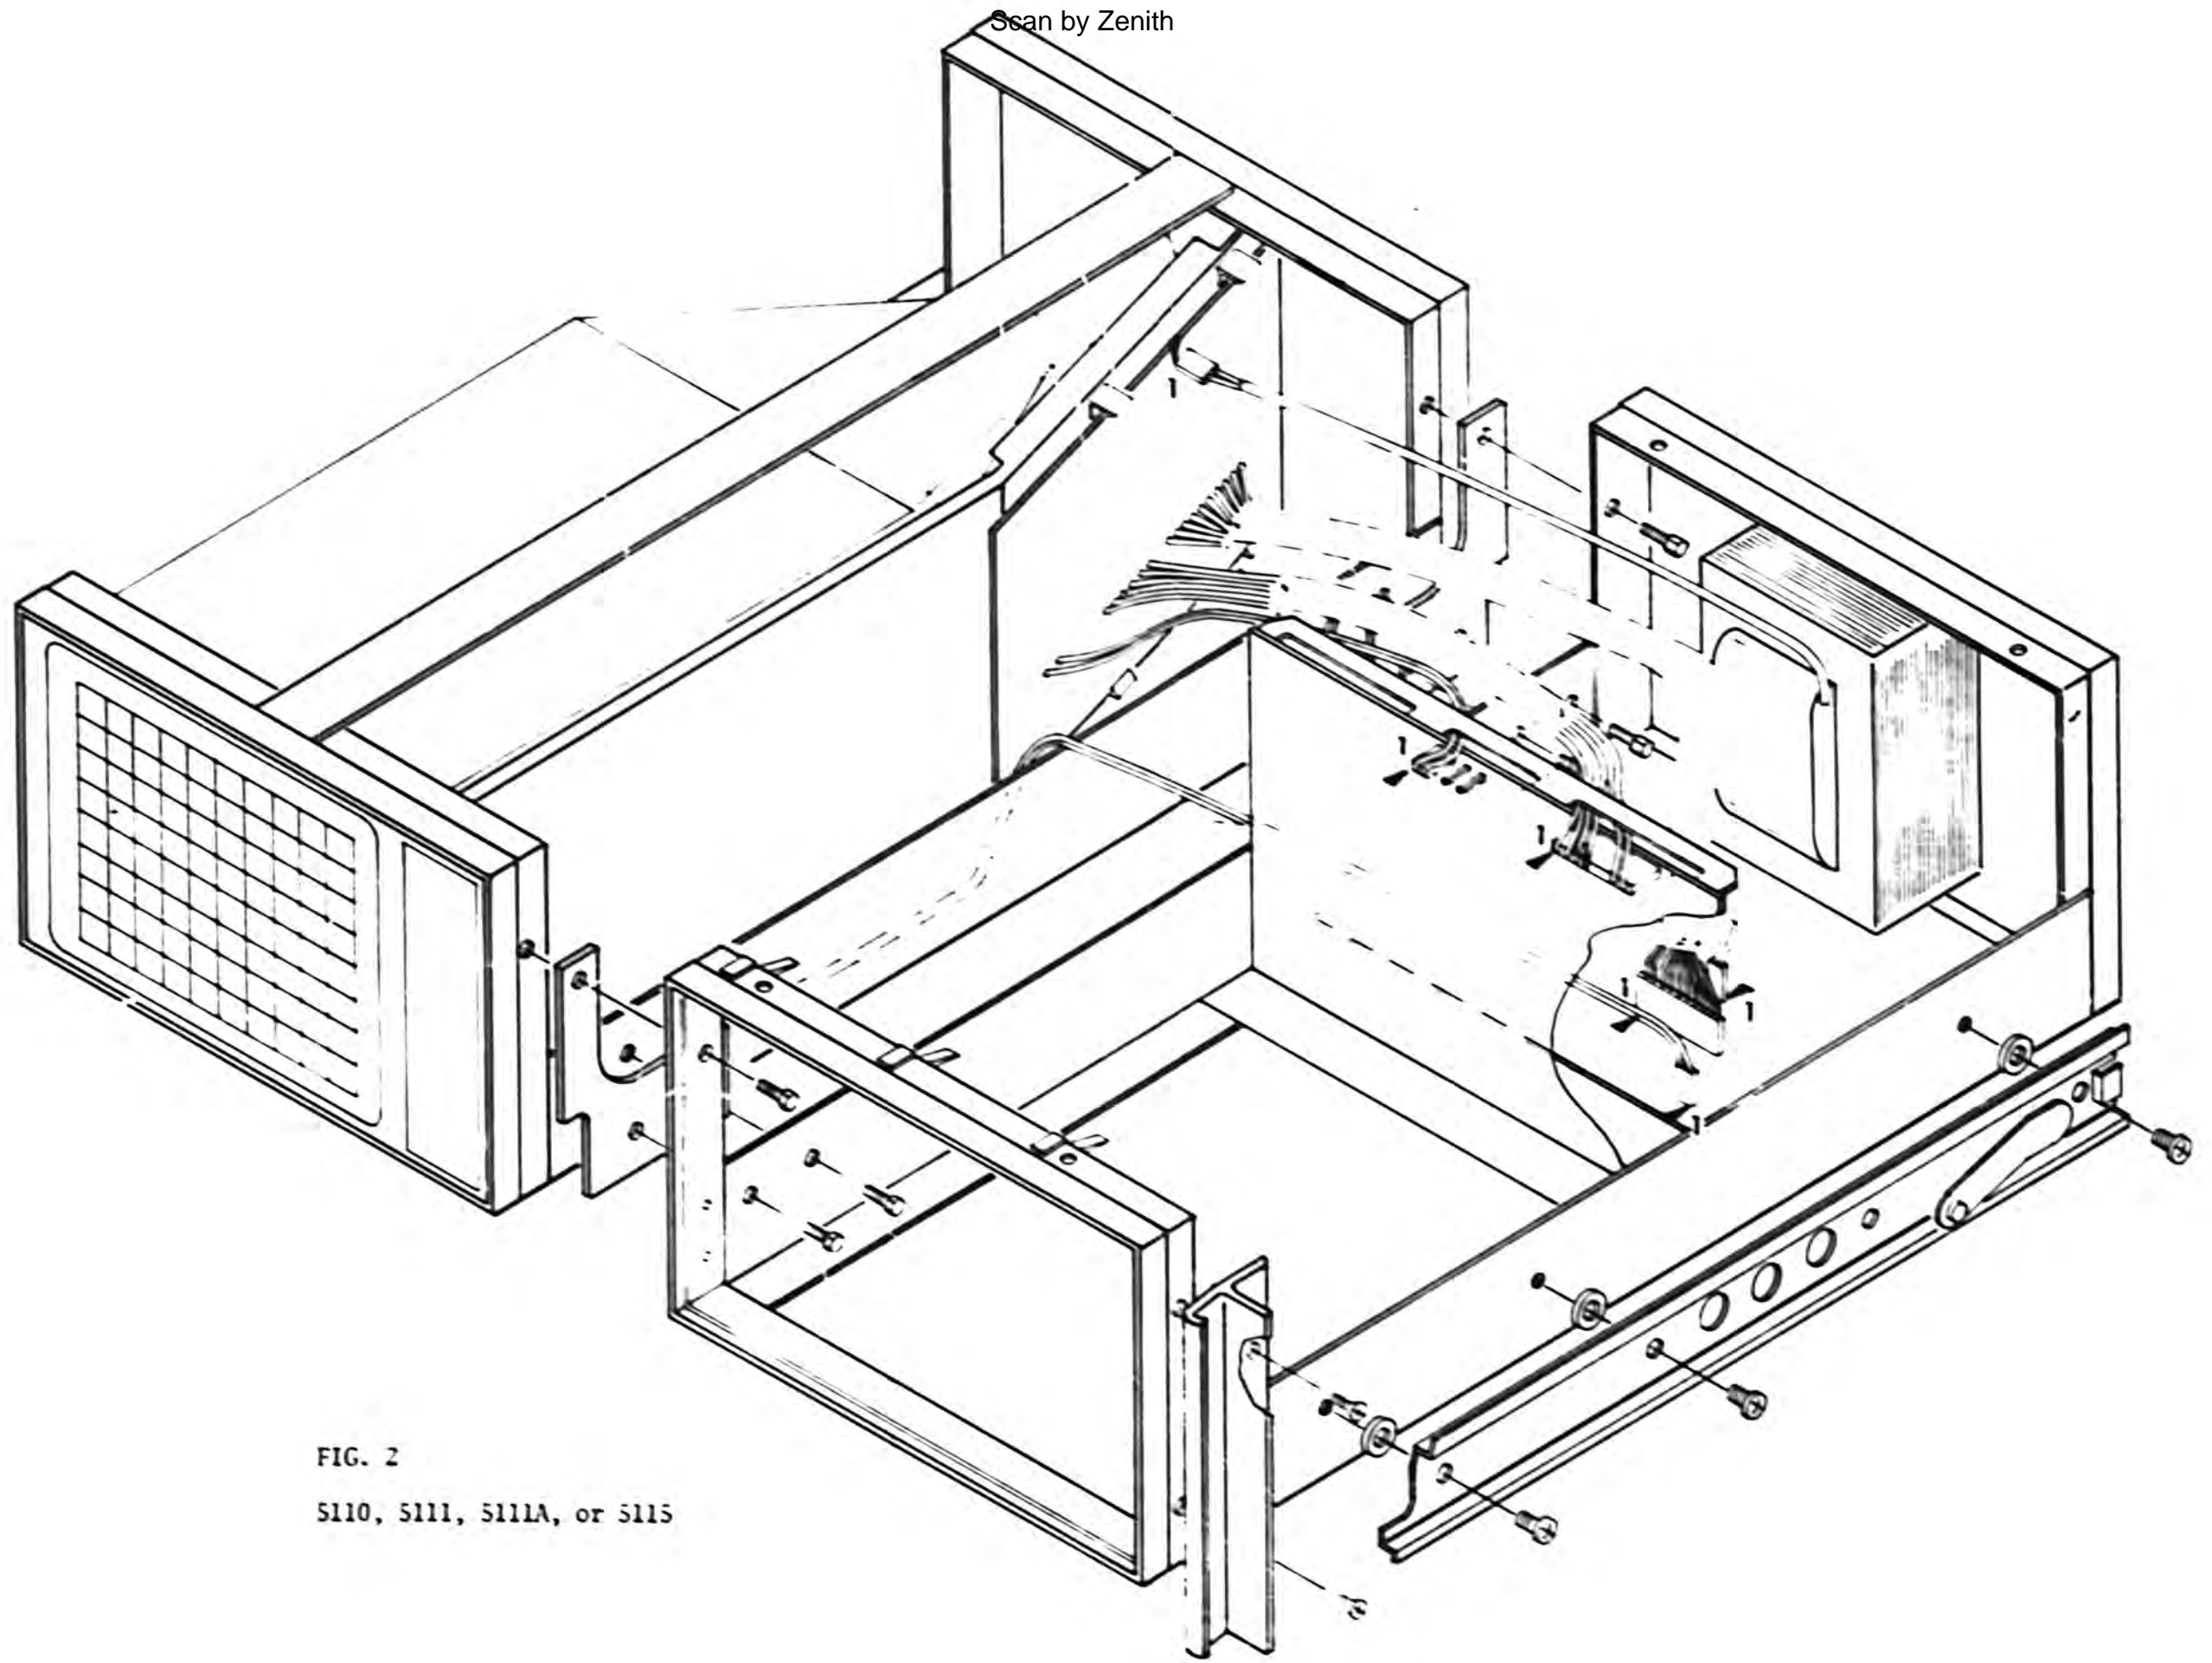
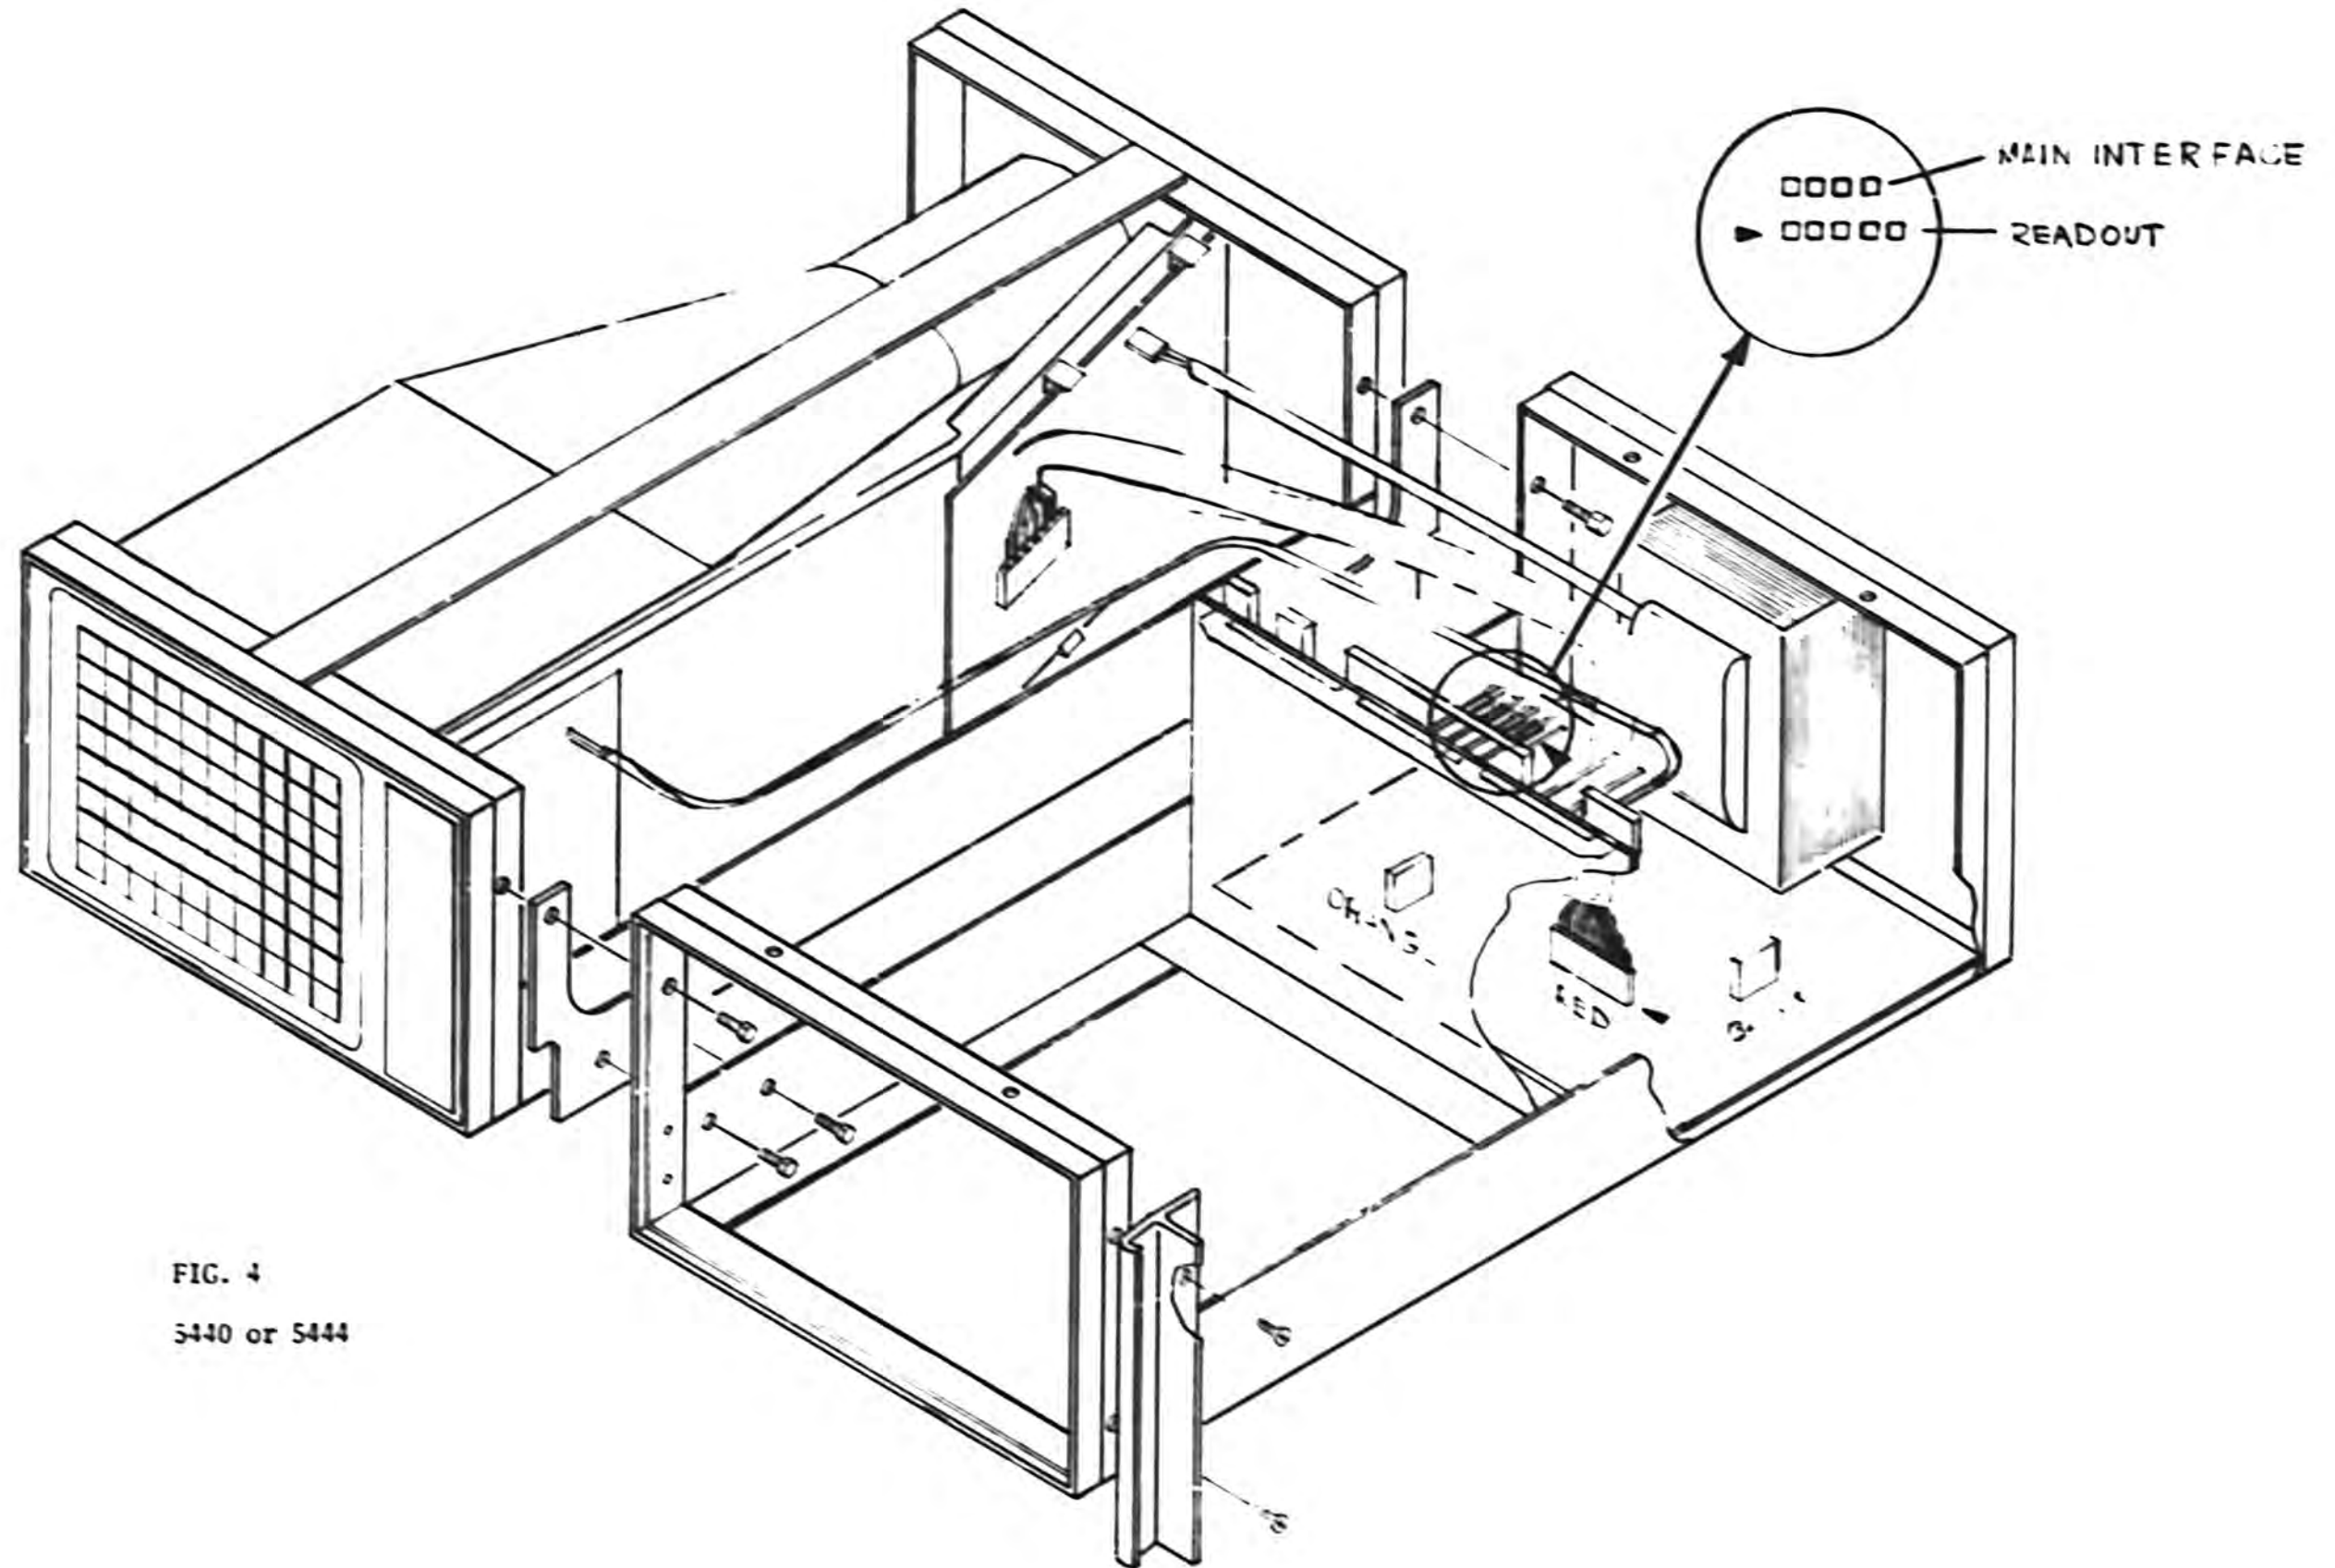

FIG. 2
FIG. 4
When performing the following steps, refer to the drawing appropriate for your instrument (Fig. 2, Fig. 3, Fig. 4 or Fig. 5)
- () 13. Dress the interconnect cables as shown in Fig. 2, Fig. 3, Fig. 4, or Fig. 5, and reconnect the cables in the locations noted in step 4.